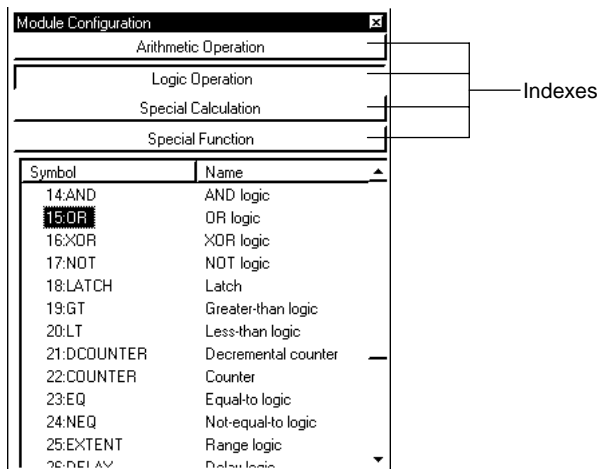

Figure 12.7.4 [Module Configuration] Dialog Box
- ≠ In the [Output Block] dialog box, double-click a blank box. The [Module Configuration] dialog box (Figure 12.7.4) appears.